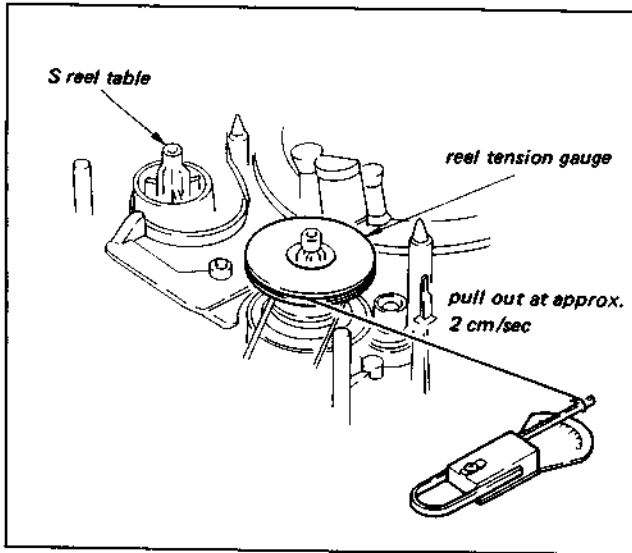

Fig. 3-46. Check of supply and take-up brake torque (1)
- 2) Attach the reel table tension gauge (Ref. No. J-4) to the take-up reel table as shown in Fig. 3-46 and hook the sector type gauge (100g full scale, Ref. No. J-7) to the end of the string. Pull the sector type gauge at a speed of approximately 2 cm/sec and read the gauge value.